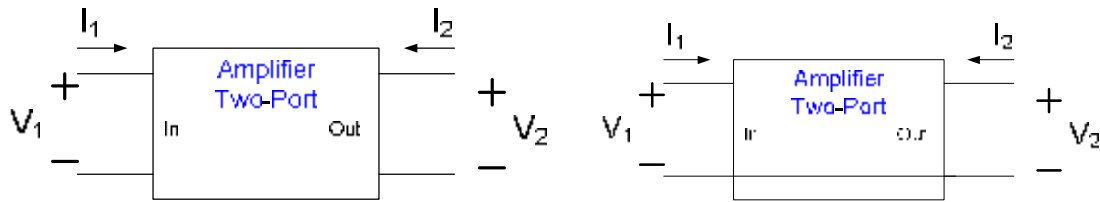

Fig. 1 Amplifiers Depicted as Two-Port Networks
**Practical Details:** The dependent source has been used repeatedly in your introductory circuits course but there are no primitive circuit components that serve as dependent sources. As such it was difficult to conduct laboratory experiments with circuits that incorporate dependent sources. Although electronic devices can be used to build dependent sources, the concept of dependent sources and the implementation of dependent sources is generally viewed in a different context in the electronics community. The term “amplifier” is generally used in stead of the term “dependent source” and the four basic types of amplifiers, the voltage amplifier, the current amplifier, the transresistance amplifier, and the transconductance amplifier actually represent the four basic types of dependent sources. In all cases, the input variable to the amplifier that is sensed is either a voltage or a current and the output variable is a voltage or current. The input variable is sensed with reference to two terminals, often designated as a port, and the output variable is provided between two terminals, also designated as a port. Thus an amplifier has 4 terminals and is often termed a two-port network. One of the terminals is often common between the input and output of the amplifier so in this case it may appear that there are only three terminals associated with the amplifier but it can be still viewed as a two-port. The two-port designation in the two cases is shown in Fig. 1.